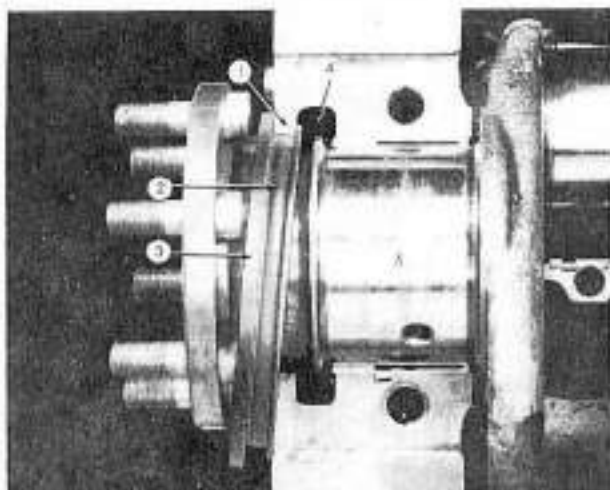
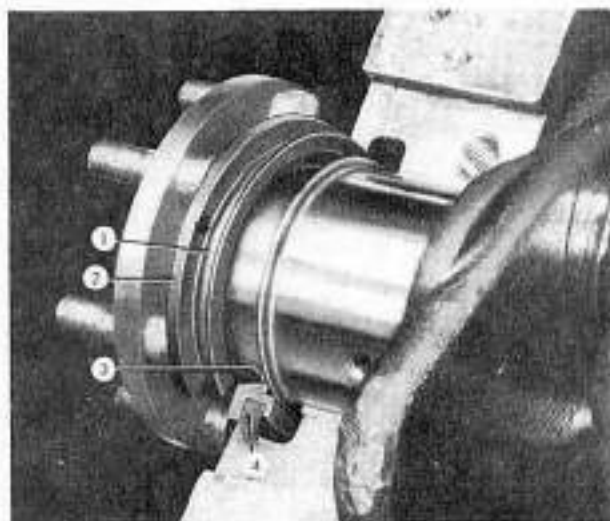

Fig. 382
Fig. 383
Dip the ends of the seal in liquid soap and spread the liquid soap throughout the inside of the outer groove. Spread the seal (3, Fig. 382) just enough to permit aligning one end of it with the crankcase rear flange (1) and insert the seal as shown in the illustration. Carefully work the seal around the crankshaft until the end emerges on the opposite side. See Fig. 383. Now align the seal, reverse the direction of